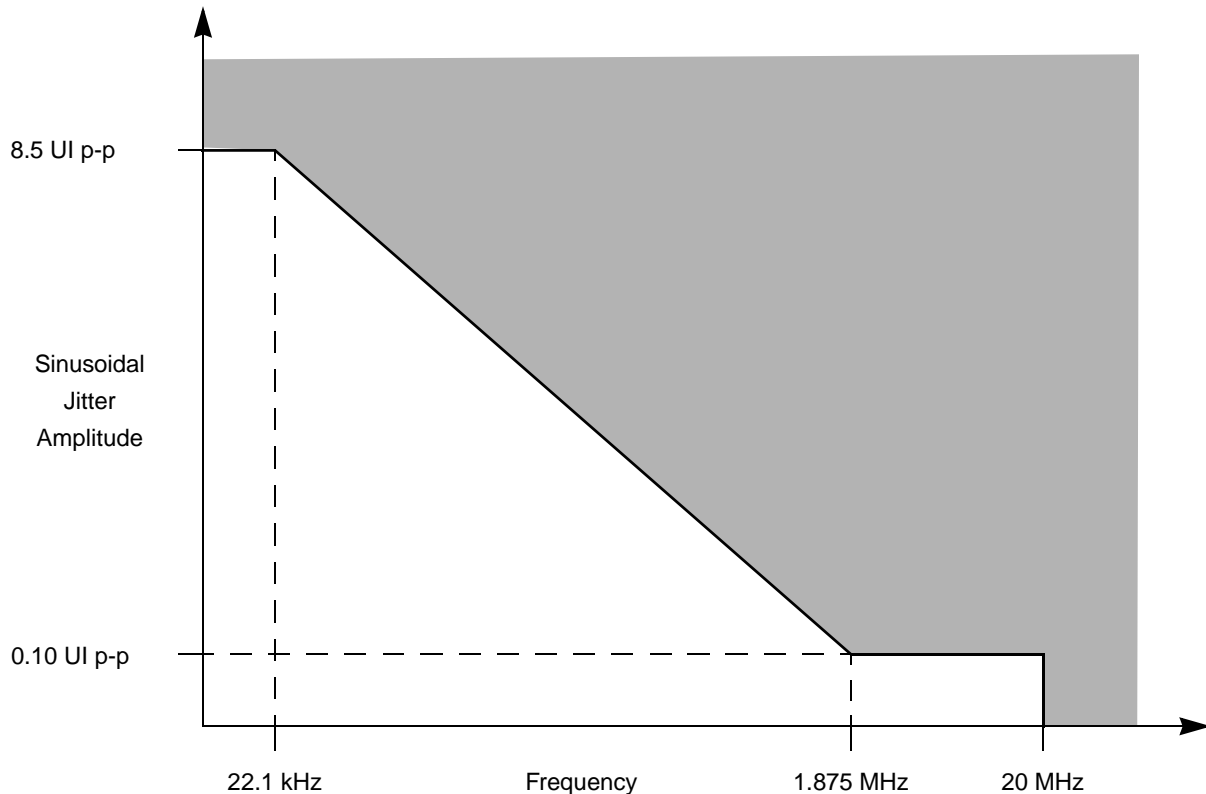

Figure 25. Single frequency sinusoidal jitter limits
2. See Figure 25 for single frequency sinusoidal jitter limits.